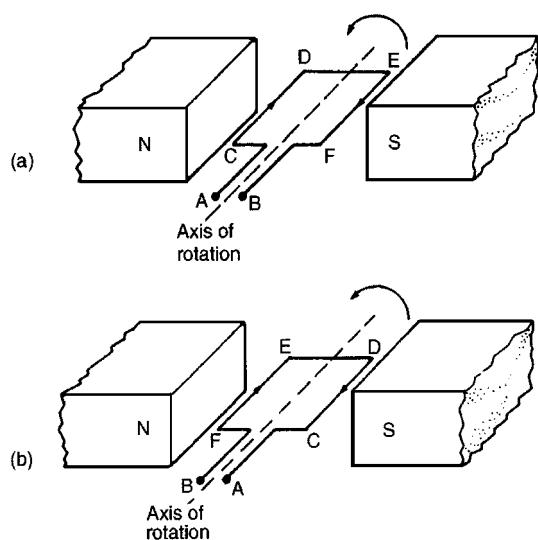
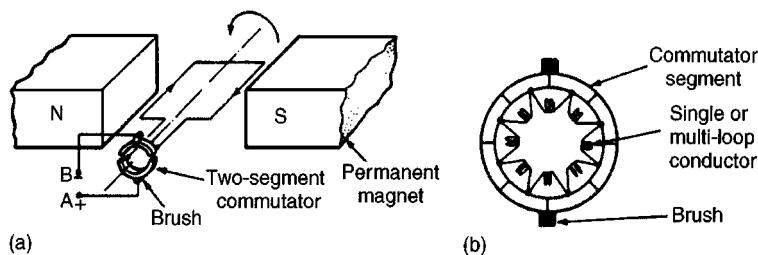

Figure 22.1
Figure 22.2
In an electric motor, conductors rotate in a uniform magnetic field. A single-loop conductor mounted between permanent magnets is shown in Fig. 22.1. A voltage is applied at points A and B in Fig. 22.1(a)
the other acting vertically upwards due to the current flowing from E to F (from Fleming's left hand rule). If the loop is free to rotate, then when it has rotated through 180° , the conductors are as shown in Fig. 22.1(b) For rotation to continue in the same direction, it is necessary for the current flow to be as shown in Fig. 22.1(b), i.e. from D to C and from F to E. This apparent reversal in the direction of current flow is achieved by a process called **commutation**. With reference to Fig. 22.2(a), when a direct voltage is applied at A and B, then as the single-loop conductor rotates, current flow will always be away from the commutator for the part of the conductor adjacent to the N-pole and towards the commutator for the part of the conductor adjacent to the S-pole. Thus the forces act to give continuous rotation in an anti-clockwise direction. The arrangement shown in Fig. 22.2(a) is called a 'two-segment' commutator and the voltage is applied to the rotating segments by stationary **brushes**, (usually carbon blocks), which slide on the commutator material, (usually copper), when rotation takes place.
In practice, there are many conductors on the rotating part of a d.c. machine and these are attached to many commutator segments. A schematic diagram of a multi-segment commutator is shown in Fig. 22.2(b)
- (iii) **field windings**, i.e. many turns of a conductor wound round the pole core; current passing through this conductor creates an electromagnet, (rather than the permanent magnets shown in Fig. 22.1 and 22.2),